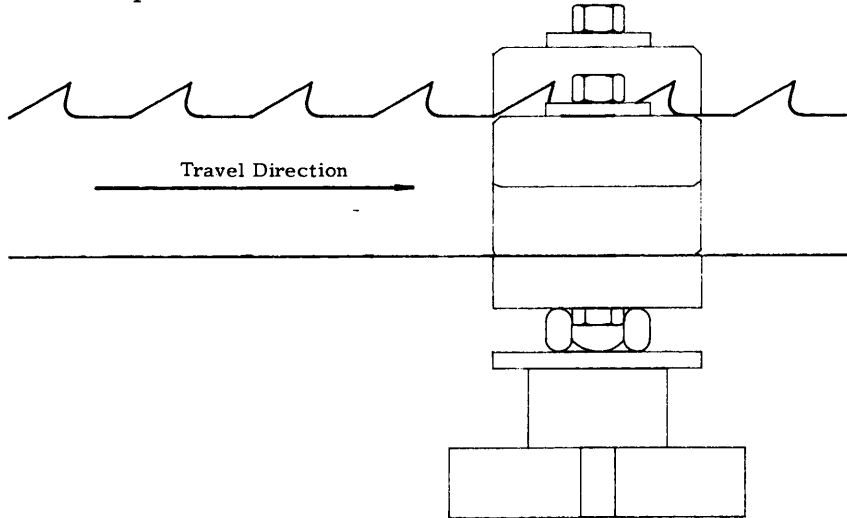

FIGURE 2
- Place the blade between the two stacks of rollers on the equalizer. Start with the weld as a reference. Pull the blade through the rollers so that the cutting face of the teeth enters the equalizer first as shown in **Figure 2**. Pull the blade through two complete revolutions.